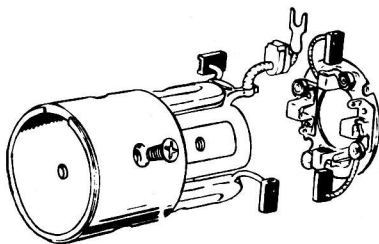

FIGURE 44. STARTER BRUSHES
5. Two of the four brushes have been soldered to the brushholder (Figure 44). The brush springs can be removed from the brushholder.